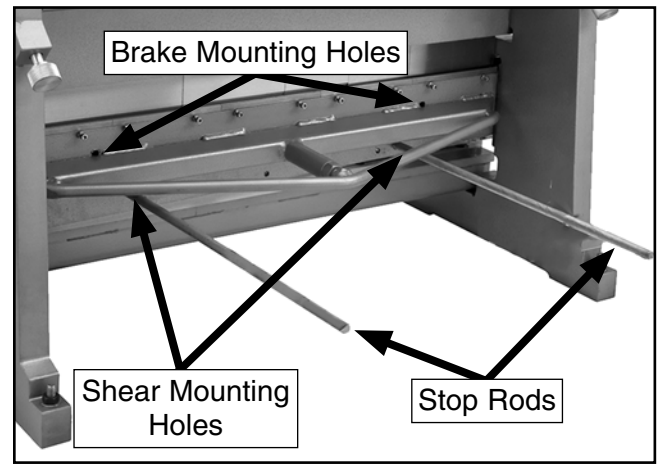

Figure 10. Work stop rods secured in shear mounting holes.
5. Thread work stop rods into either brake or shear mounting holes (see **Figure 10**), depending on operation to be performed. Only hand-tighten these rods—over-tightening will make removal difficult.